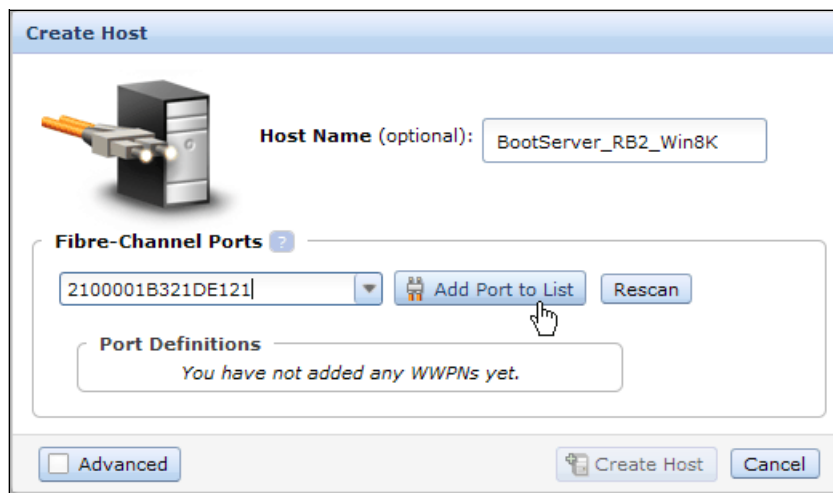
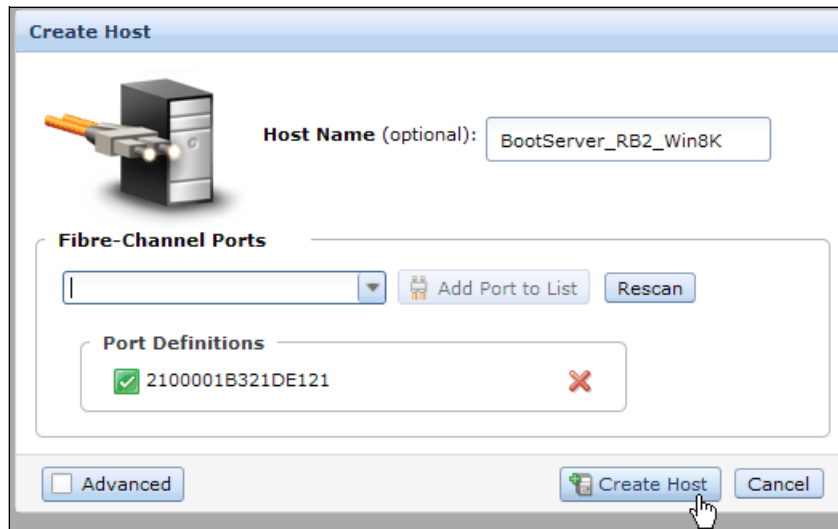

Figure 5-28 Add host-port
Figure 5-29 Create Host
3. Click **Add Port to List** and then **Create Host**, as shown in Figure 5-28 and Figure 5-29.